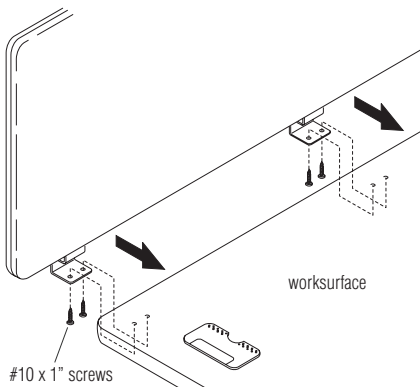

Figure 1
1. Position privacy screen with bracket on the top back edge of the work surface. Line up the left and right edges of the privacy screen with the left and right edges of the work surface (Figure 1).
2. Attach to pre-drilled holes in work surface with #10 x 1" screws (four screws on 30" and 36" privacy screens (Figure 1).